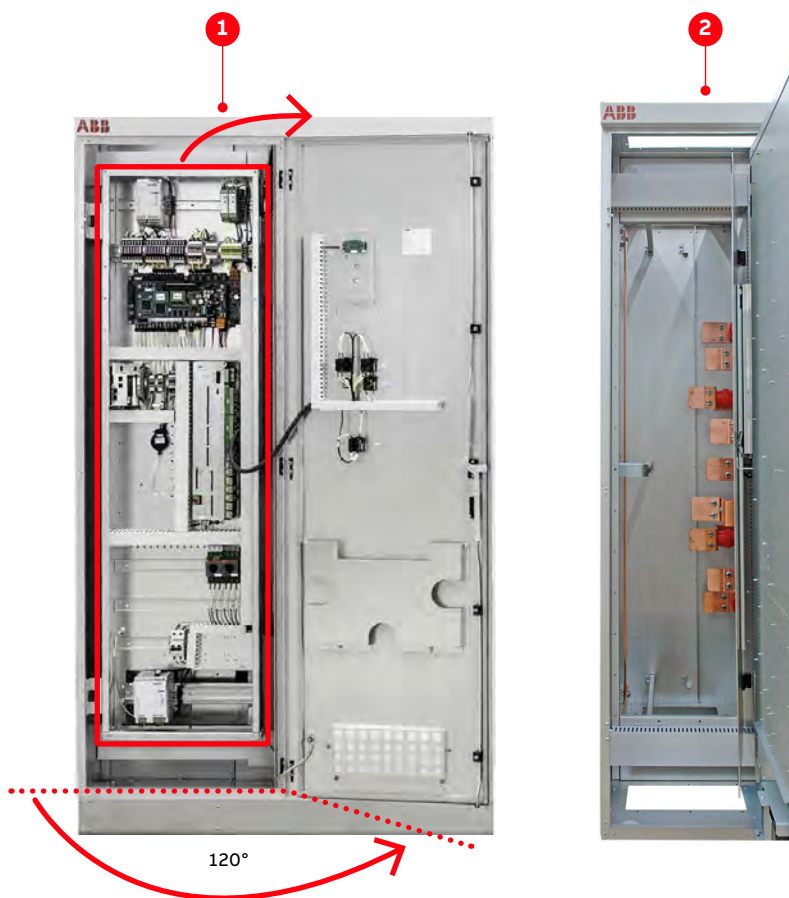

Figure 3-5: Control and terminal compartments
- Control compartment (1 in Fig. 3-5)
- Terminal compartment (2 in Fig. 3-5)